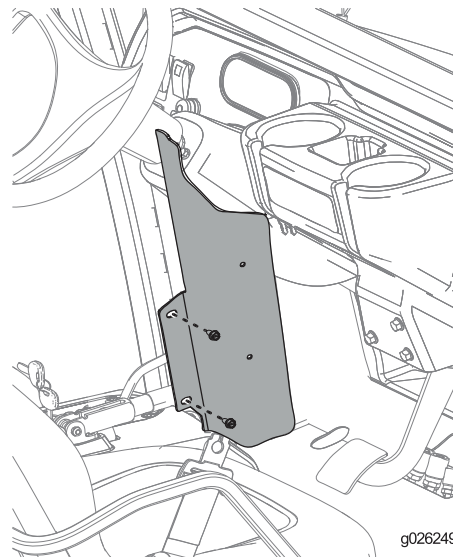

Figure 46
- Install the side-plate panels on each side of the machine using 2 bolts (1/4 inch) as shown in Figure 46.